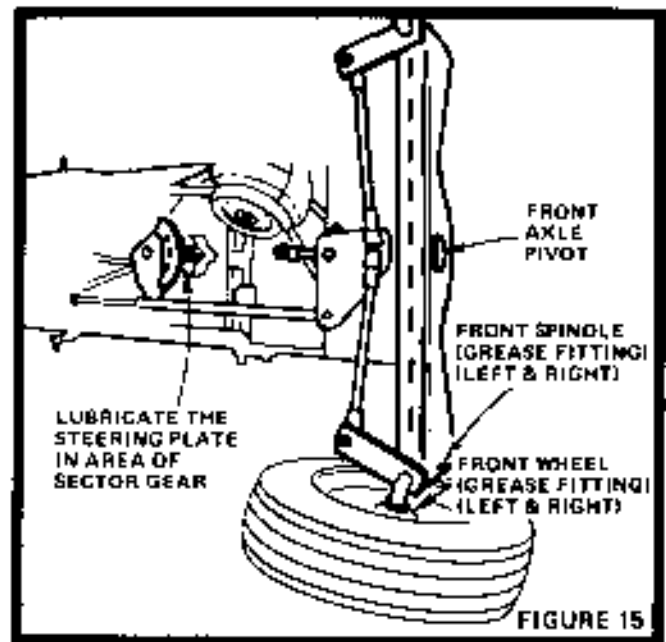

FIGURE 15
There are four Grease Fittings on your Tractor (Fig. 15). Using a Grease Gun, give each Grease Fitting two shots of Extreme Pressure Lubricating Grease Amdex No. 1 or equivalent (available through your Sears Service Center).
- Front Axle Pivot (Fig. 15)
- Steering Plate (Fig. 15).